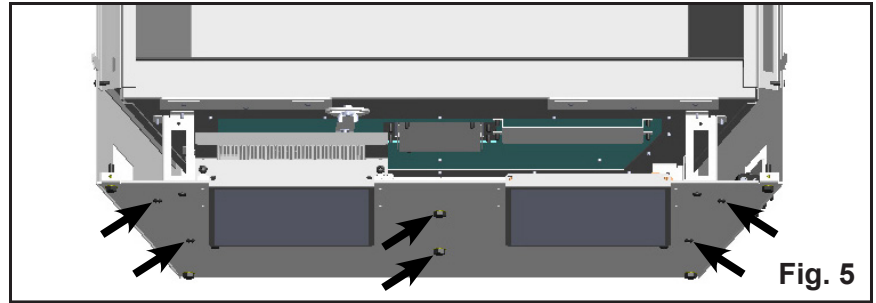

Fig. 5
1. Locate the x6 Levelling Bolts beneath the appliance (**Fig. 5**) and level the appliance from side to side and front to back. If levelling is not required, the bolts can be removed.